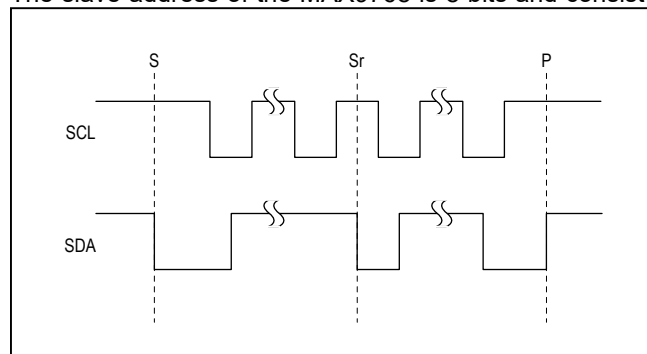

Figure 4. START, STOP, and REPEATED START Conditions
A master device initiates communication by issuing a START condition. A START condition is a high-to-low transition on SDA with SCL high. A STOP condition is a low-to-high transition on SDA while SCL is high (Figure 4). A START (S) condition from the master signals the beginning of a transmission to the MAX9768. The master terminates transmission, and frees the bus, by issuing a STOP (P) condition. The bus remains active if a REPEATED START (Sr) condition is generated instead of a STOP condition.